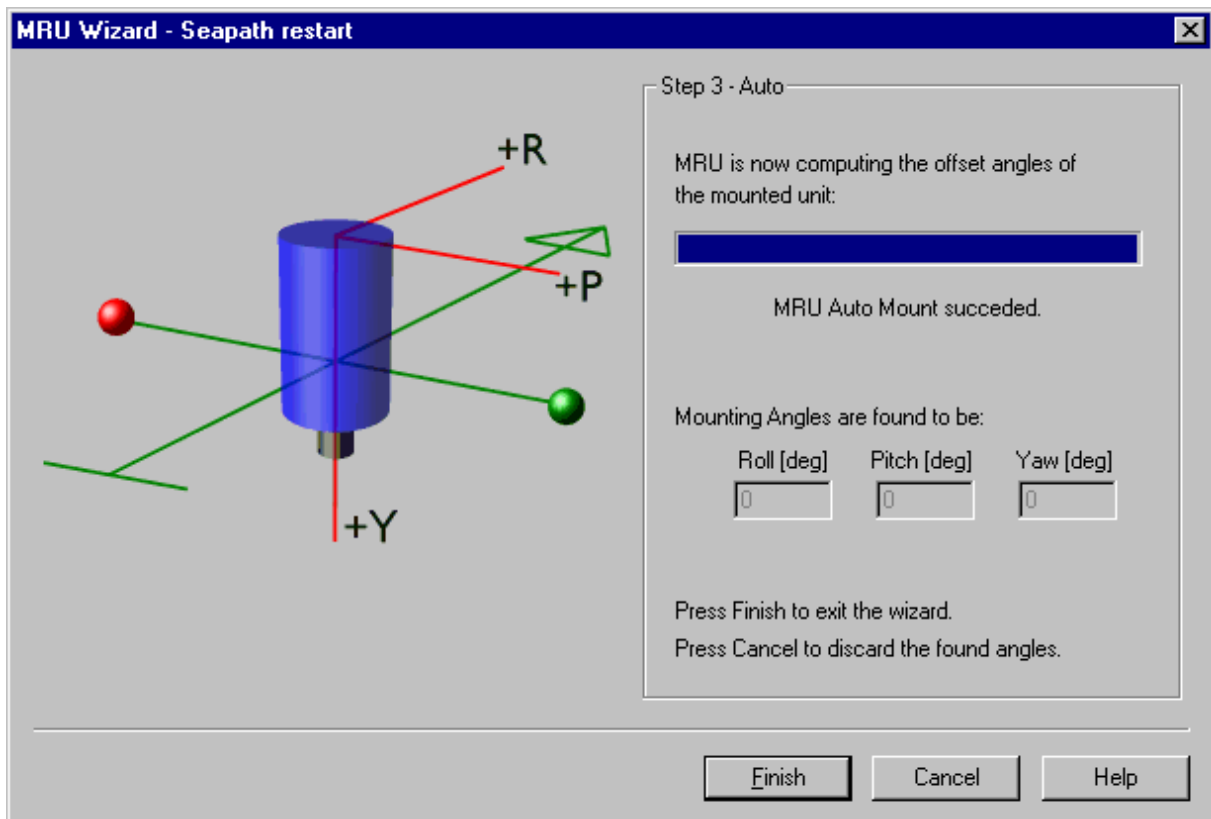

Figure 50 Step 3 of Auto MRU Axis Orientation
- Then click **Next** to start the Auto Mount process. The window in Figure 50 will appear, and the MRU offset angles are computed. A time-out bar shows the progress. When finished and the found mounting angles look OK, press **Finish**.